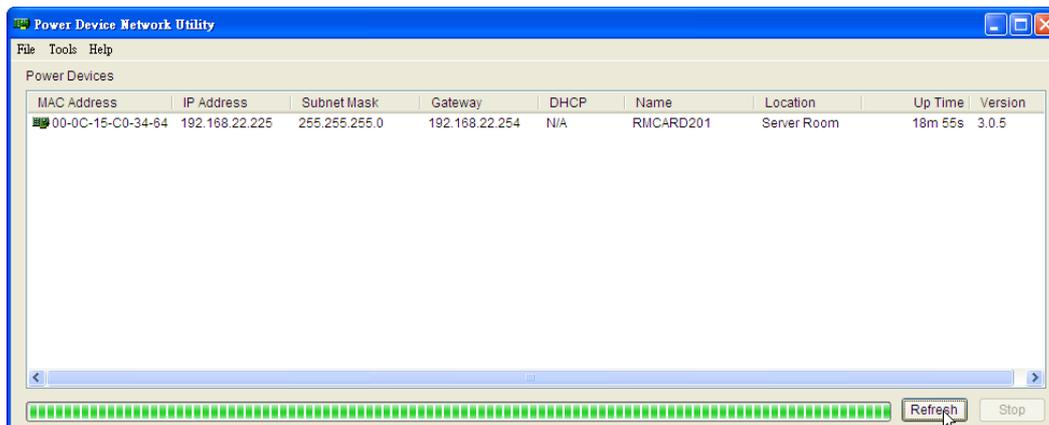

Figure 1. The main window of the "Power Device Network Utility" program.
3. The main dialog of the "Power Device Network Utility Tool" program is shown in Figure. 1. The configuration tool will display all CyberPower network cards of present on the same network. The "Refresh" button is used to search the entire local network for SNMP cards.